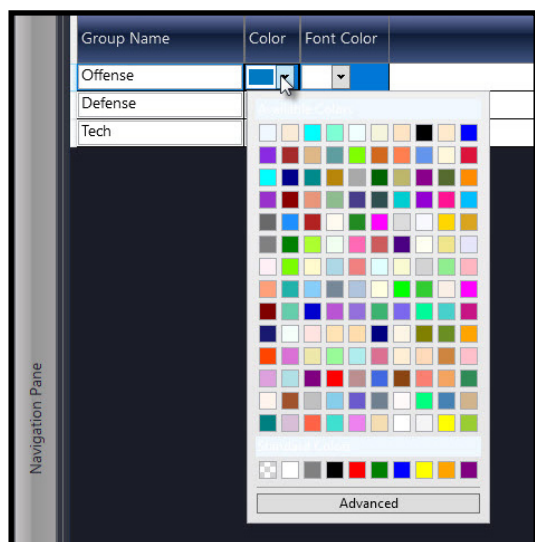

Figure 72: Editing Group Colors
5. Open the drop-down color picker in the Color and Font Color columns, and choose a color to represent the group (see Figure 72). This color choice appears on the RP Icons (X-Ware’s Home screen) for profiles with the group assignment.